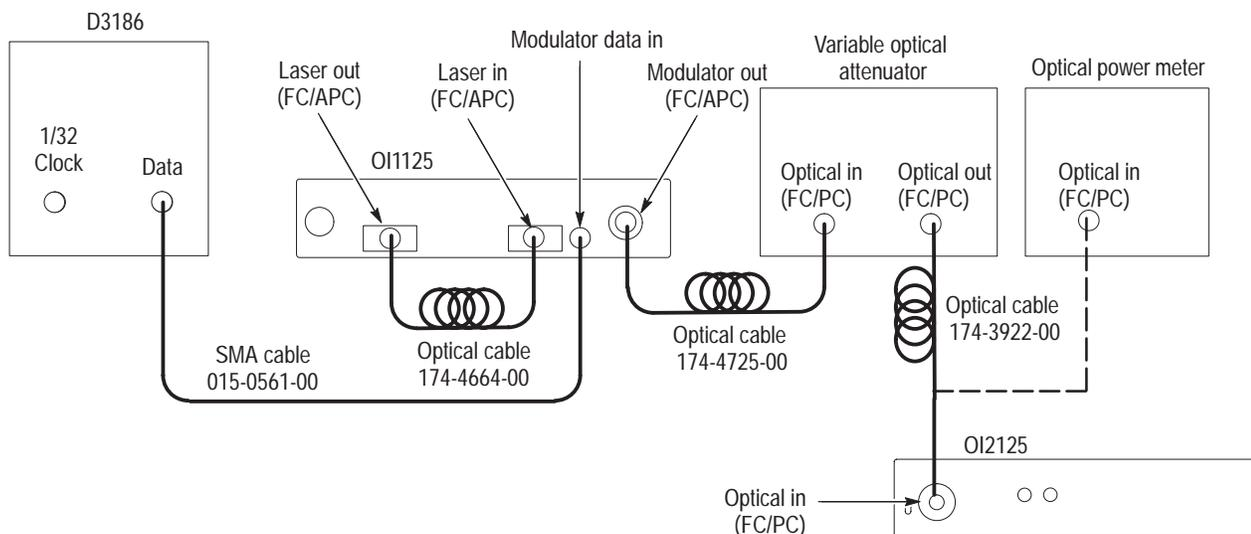

Figure 13: Setup for the LOS threshold test
1. Connect the equipment as shown in Figure 13. Use a torque wrench to secure the SMA connections to 7 to 10 lb-in (79 to 112 N-cm).